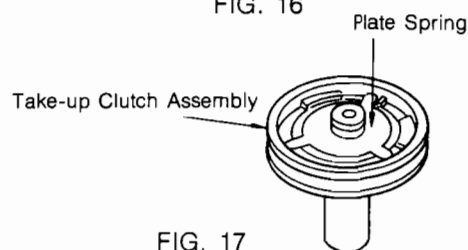

FIG. 17
- c) Change take-up clutch tension by turning the friction spring under reel table, as shown in Fig. 17, and/or